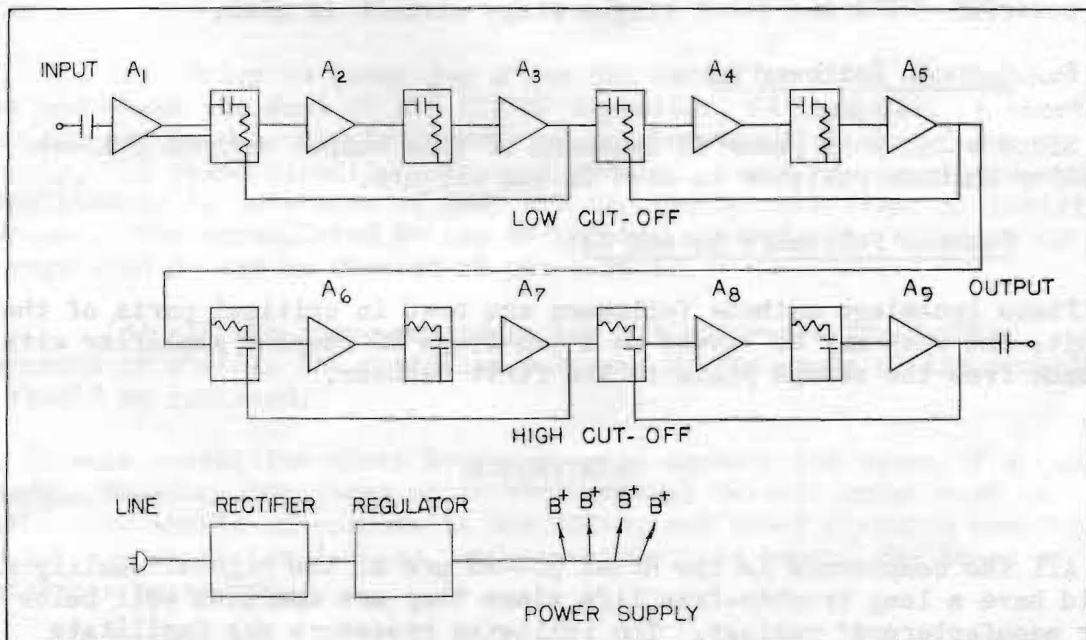

FIGURE 7-BLOCK DIAGRAM MODEL 310AB
2. Input Amplifier (A₁ Fig. 7)